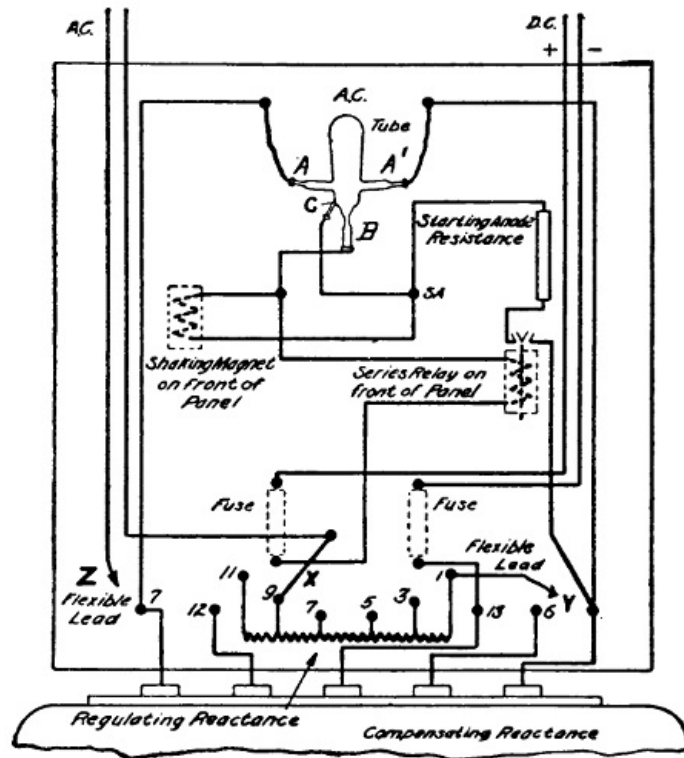
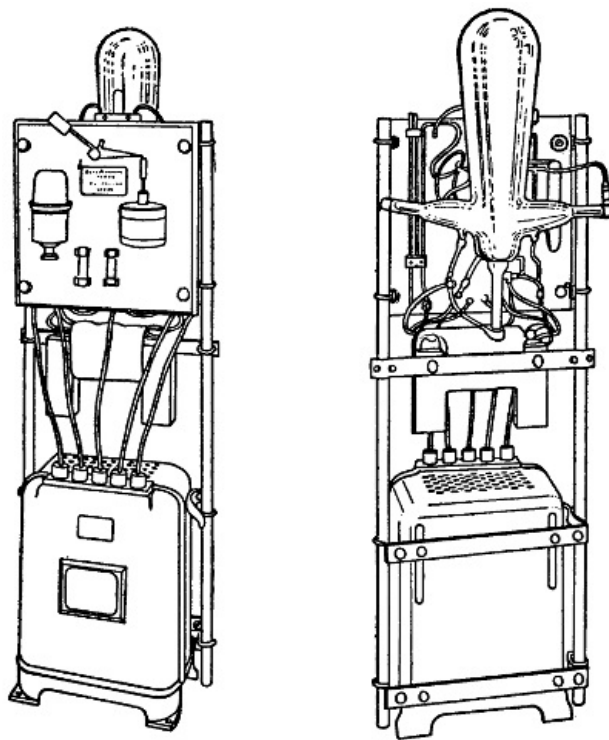

FIGURE 149.
FIGURE 150.
*The Mercury-Arc Rectifier Control.*—The mercury-arc rectifier has three essential parts: the rectifier tube, the main reactance, and the panel. The rectifier tube, Figure 149, is a glass vessel from which the air has been exhausted and in which there are two graphite electrodes, *A* and *A'*, and one mercury electrode *B*. From the two upper electrodes current can pass in the direction of the mercury only. They are always positive and the term *anode* is usually applied to them. *B* is always negative and the term *cathode* applies to it. Each anode is connected to a separate side of an alternating-current circuit and is thus subject alternately to positive or negative potential.
In Figure 149 a complete diagram of the connections of the General Electric Company Mercury Arc Rectifier for moving-picture arcs is given. This type of rectifier is entirely automatic and is much used. The front and back connections are shown in Figure 150. The following instructions are taken from a publication of the General Electric Company: